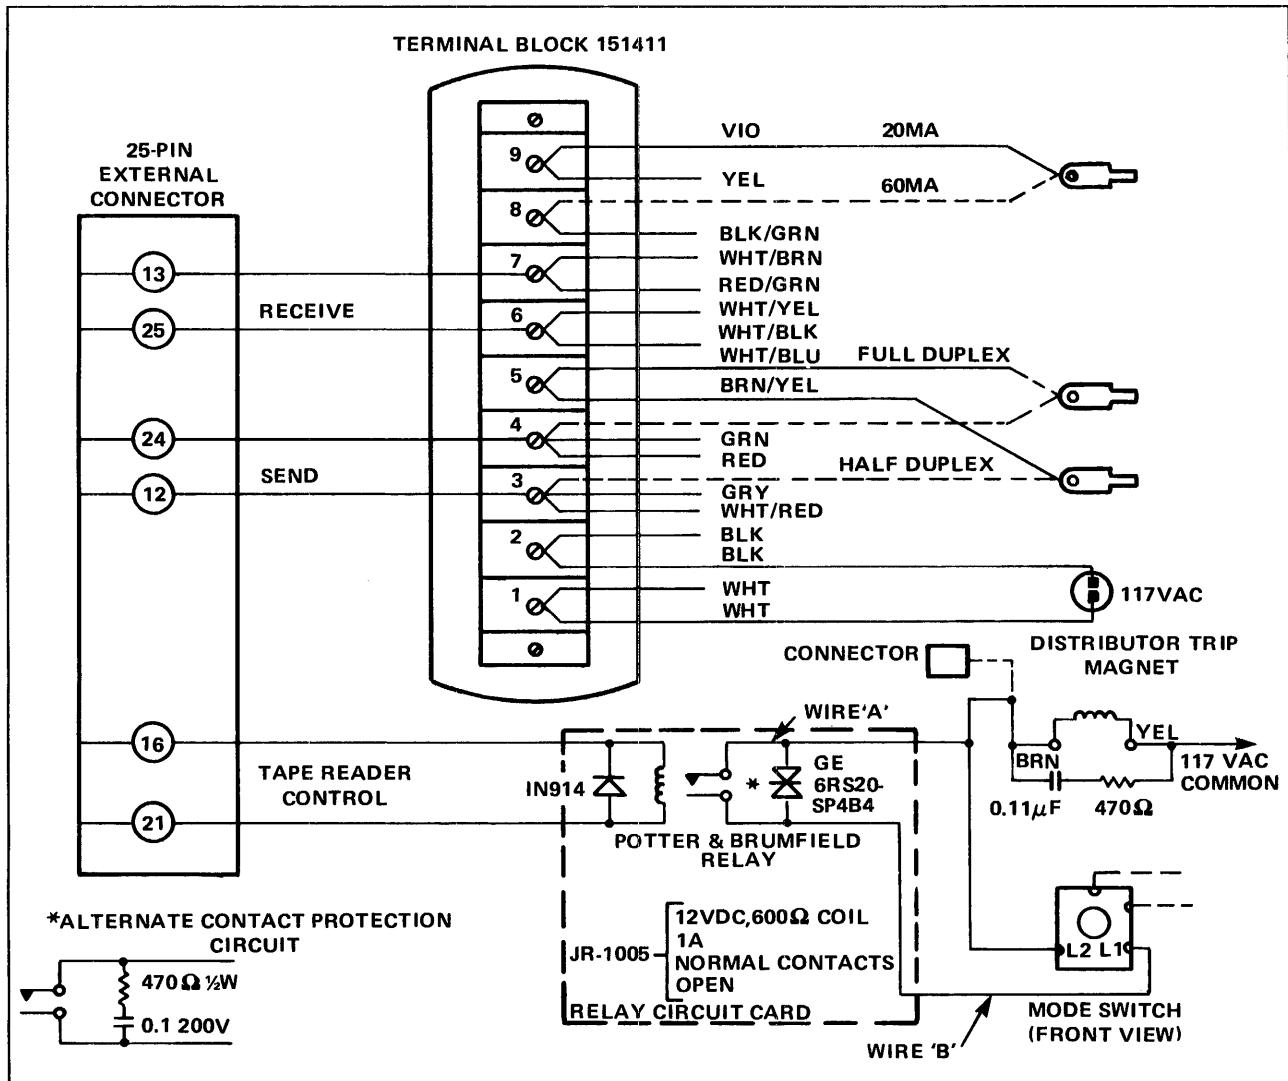
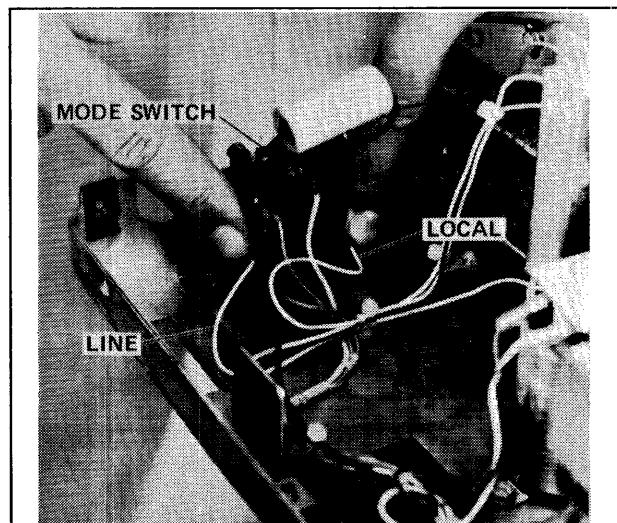

Figure E-4. Teletypewriter Modifications
Figure E-6. Mode Switch
A circuit diagram of the relay circuit card is included in figure E-4; this diagram also includes the part numbers of the relay, diode, and thyrauctor. (Note that a 470-ohm resistor and a 0.1 μ F capacitor may be
- a. Refer to figure E-4 and connect a wire (Wire 'A') from relay circuit card to terminal L2 on mode switch. (See figure E-6.)
- c. Refer to figure E-4 and connect a wire (Wire 'B') from relay circuit board to terminal L1 on mode switch.
Connect a two-wire receive loop, a two-wire send loop, and a two-wire tape reader control loop to the external device as shown in figure E-4. The external connector pin numbers shown in figure E-4 are for interface with an RS232C device.